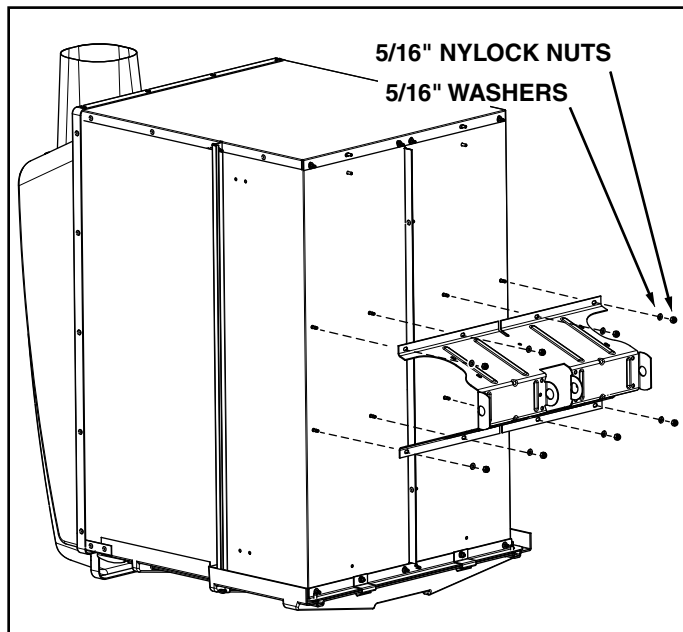

FIGURE 1
- 1. Tip the cart back to rest upright on the rear of the cart. See figure 1.
- 2. Attach the wheel support to the cart using eight 5/16" nylock nuts and 5/16" washers. See figure 1.